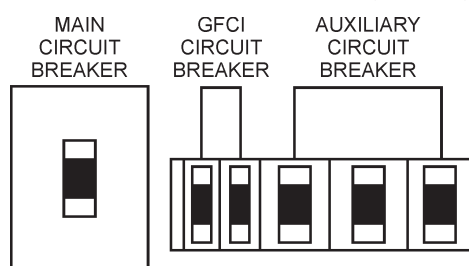

Figure 35. Main, Aux. and GFCI Circuit Breakers (OFF)
1. Place the **main, G.F.C.I., and aux.** circuit breakers (Figure 35) in the **OFF** position prior to starting the engine.
1. Place both the **MAIN, GFCI and LOAD** circuit breakers as shown in Figure 35 to the **OFF** position.
2. Place **MAIN, GFCI and LOAD** (Figure 35) circuit breakers in the **OFF** position.